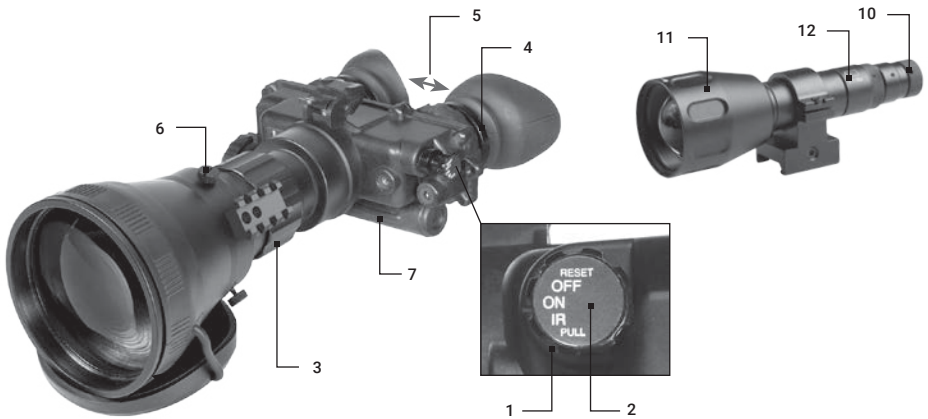

FIGURE 2-1. FOXBAT-LE CONTROLS AND INDICATORS
The FoxBat-LE is adjustable to accommodate different users and will correct for most differences in eyesight. The controls and indicators for the FoxBat-LE are shown or described in Figure 2-1 and Table 2-1.
3. Adjust the interpupillary distance (Figure 2-1) by sliding the eyepieces together or apart so that each eye can observe the entire field of view at the same time. The eyepieces adjust independently.